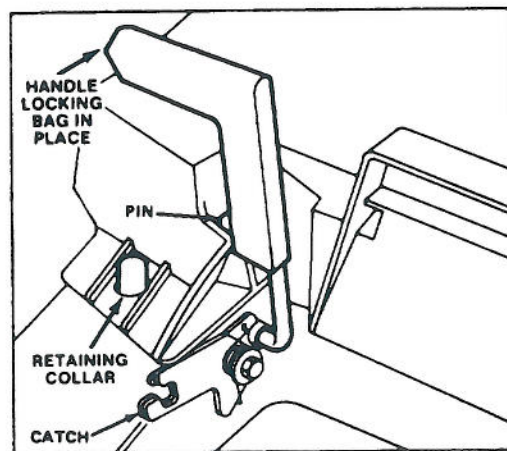

Figure 11
3. **INSTALLING BAG** — Slide hole in bag frame onto retaining collar on housing (Fig. 11) and set rear of bag frame onto lower handle.
4. Pull chute door handle forward until pin clears catch and move handle rearward until pin locks in bag notch (Fig. 11). Chute door in mower housing is now open. It may be necessary to push down on top right of bag door to release handle locking pin from catch.